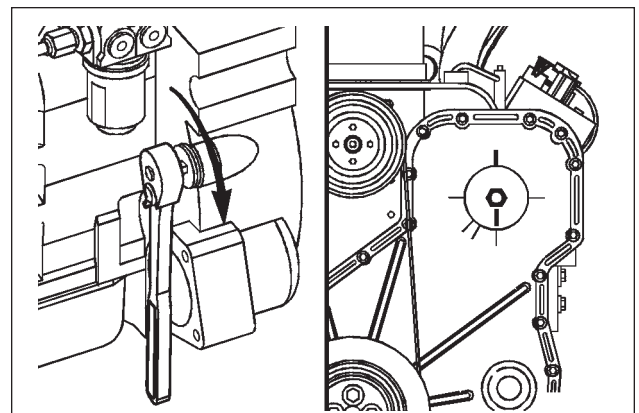

FIG. 4
11. Using the engine barring tool, Part No. 3824591, rotate the crankshaft 360 degrees to align the mark on the fuel pump gear with the mark on the gear cover that is 180 degrees away from top dead center (Fig. 4).